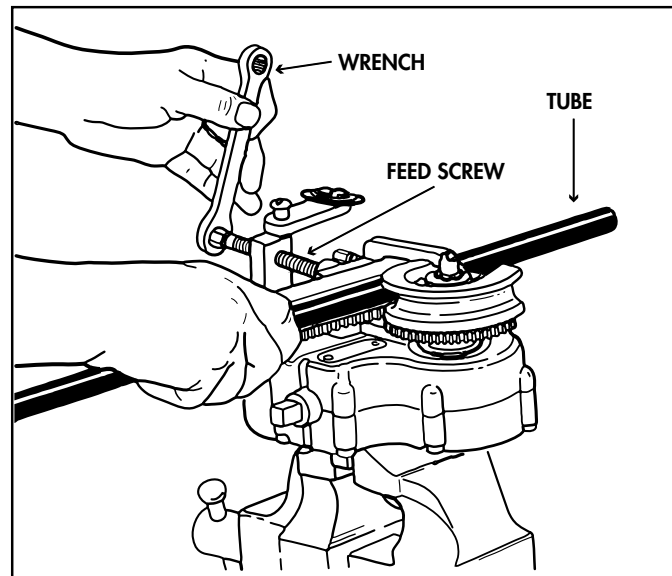

Figure 9. Rotating Feed Screw With Double Ended Wrench
h. While holding the form shoe against the tube to be bent, rotate the feed screw until the pressure plate in the form shoe slide block is in light contact with the form shoe. (See figure 9.) This will hold the form shoe in place while making further preparations for making the bend.
k. After engaging the dial, tighten the feed screw securely to force the faces on the form shoe against the faces on the form block. (See figure 9.)